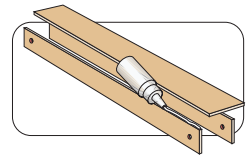

Figure 3
3. Glue the rails on each side of a second piece of balsa wood at a 90-degree angle (Figure 3). The holes should be on both ends of the body.